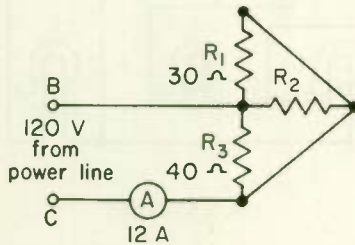

Fig. 11
2. The three resistors in Fig. 11 are in (parallel)(series). They are in parallel if, and only if, you can take each resistor in turn, trace through that resistor starting at point B , and return to point C without passing through either of the other two resistors.
3. The resistance of R_2 in Fig. 11 is 24 ohms.